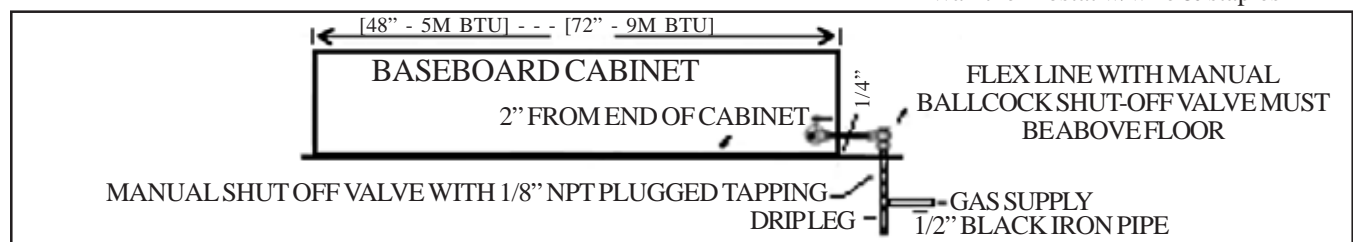

FIGURE 3
STEP 2. ROUGHING GAS SUPPLY – (See Figure 3)